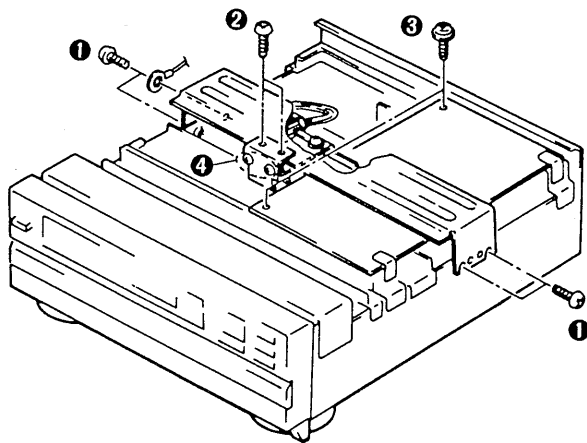

Fig. 1
1. Remove four screws which fasten both sides of reinforcement. (L, center part of chassis.) (Figure 1-**1**)
2. Remove two screws which fasten the reinforcement (SB) to the reinforcement. (Figure 1-**2**)
Note-1 Do not remove the two screws of figure 1-**4** since the installation location might be shifted.
3. Remove two screws (Figure 1-**3**) which fasten the main board.